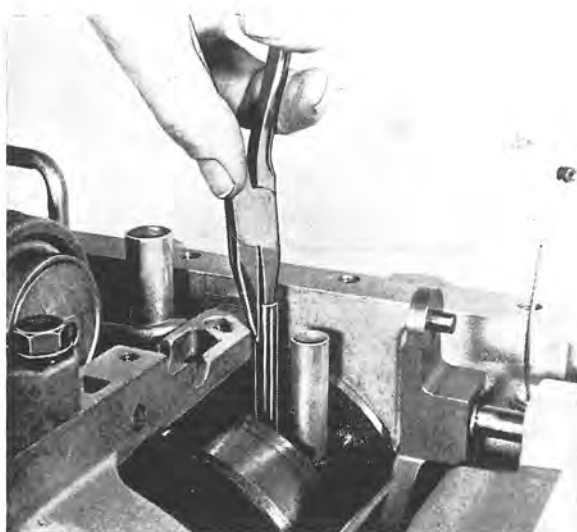

Fig. 4-87. Removing converter inlet and outlet tubes using needle-nose pliers
20. Remove the oil tubes in the housing. In case of difficulty pull them out with needle-nose pliers as shown in Fig. 4-87.